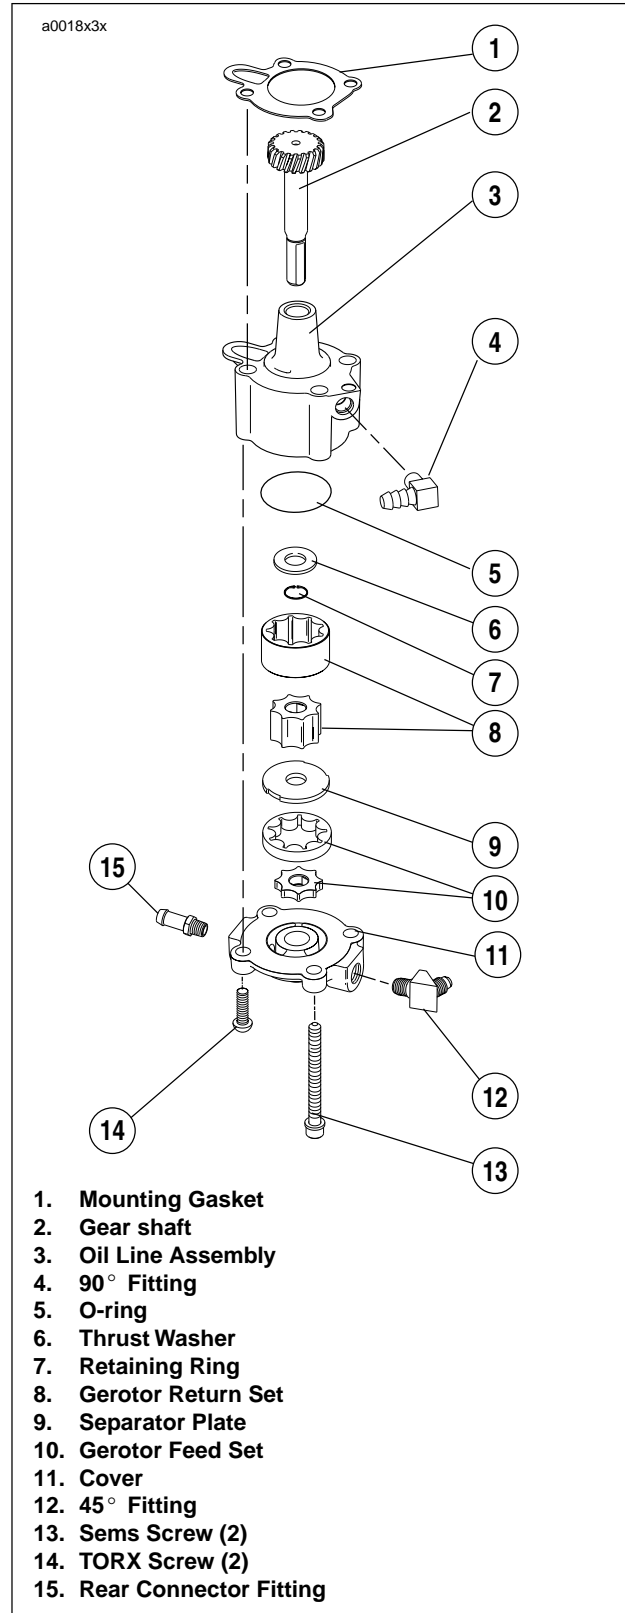

Figure 3-90. Oil Pump
See Figure 3-90. The oil pump consists of two gerotor gear sets, feed and return, housed in one pump body. The feed set distributes oil to the engine, the scavenge set returns oil to the tank/frame reservoir.
See Figure 3-90. Gravity-fed oil from the oil reservoir enters the pump through the feed hose connector. It is forced by the gerotor feed set through a hose to the oil filter. Return oil from the flywheel compartment is drawn back into the pump and is forced by the gerotor scavenge set back to the oil reservoir.
8. See Figure 3-90. Slide both pieces of gerotor feed set, separator plate and both pieces of gerotor scavenge set off gear shaft.
1. See Figure 3-90. Install gear shaft through body. Position thrust washer over end of shaft. Install **new** retaining ring into groove in shaft.
6. See Figure 3-90. Place gerotor feed set over gear shaft.